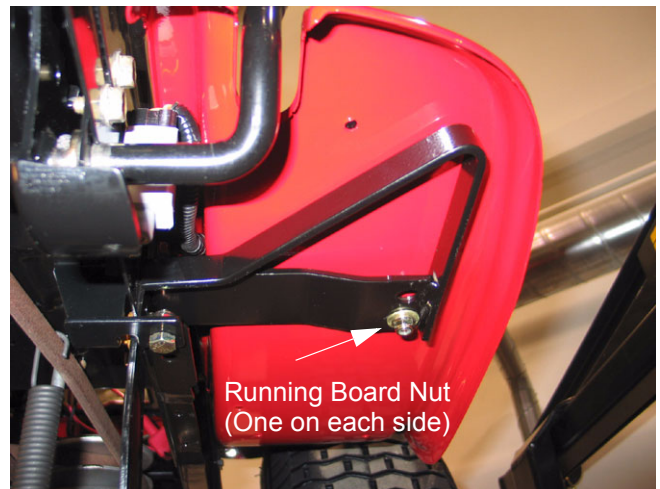

Figure 22
- 6.7. Working from under the running boards and using a 1/2" socket, remove the two nuts securing the running boards to the frame. See Figure 22.